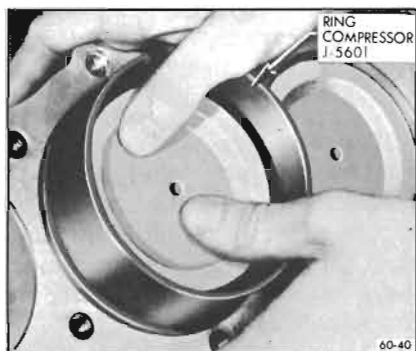

Figure 60-40—Installing Piston With Ring Compressor
14. Lubricate the piston and rings and install in bore by compressing the rings either with a "wrap around" compressor or a split ring type such as shown in Figure 60-40.